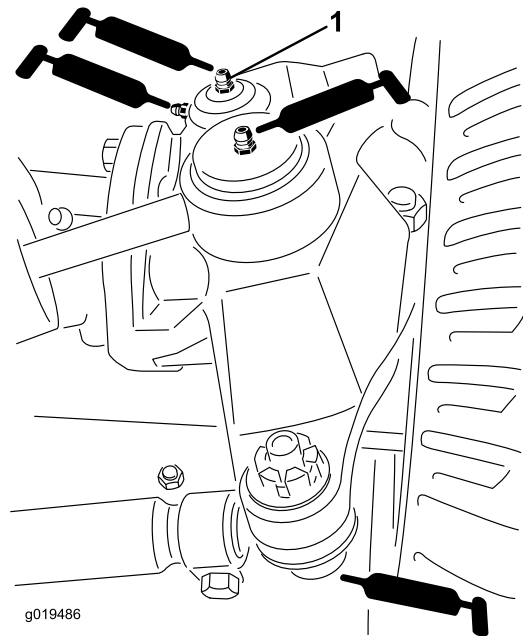

Figure 45
- Rear axle tie rod (2) (Figure 45).
- Steering cylinder ball joints (2) (Figure 45).
- King pin bushings (2) (Figure 45). **The top fitting on the king pin should only be lubricated annually (2 pumps).**